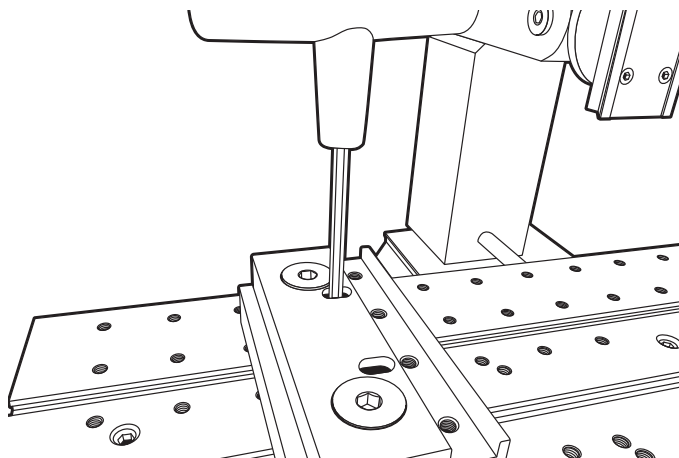

FIGURE 7
- Align the fixed jaw squarely on your table or tooling plate and tighten the rear T-nut screw (the screw closest to the milling column, see Figure 7).